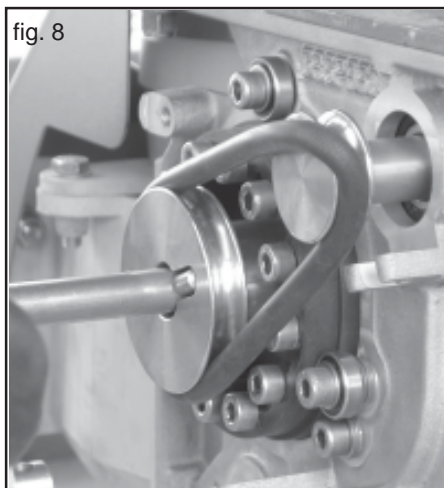

fig. 8
- To disable the agitator, lift the round belt above the edge of the drive pulley (Fig. 8) and, on the opposite side, rotate the dosing roller in the driving direction.